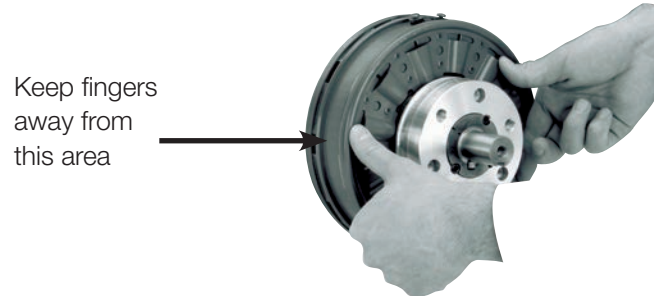

Figure 6 - Setting the airgap
Step 13: Apply power (90 VDC) to the brake and remove the shims. Set the airgap by pressing the armature into contact with the magnet and then releasing as shown in Figure 6. The armature should spring back approximately 3/64 (.045) inch.